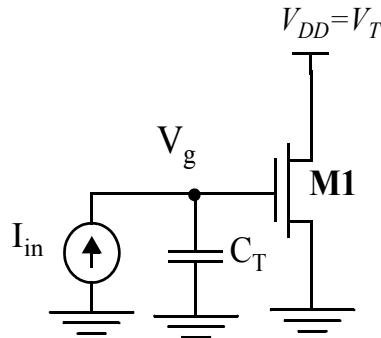

Figure 0.14 Circuit to measure total input capacitance
- Consider the configuration of Figure 0.14. V_{DD} is equal to V_T (the threshold voltage of the transistor). Assume that the initial value of V_g equals 0. A current source with value I_{in} is applied at time 0. Assuming that all the capacitance at the gate node can be lumped into a single, grounded, linear capacitance C_T , derive an expression for the time it will take for V_g to reach $2 V_T$.